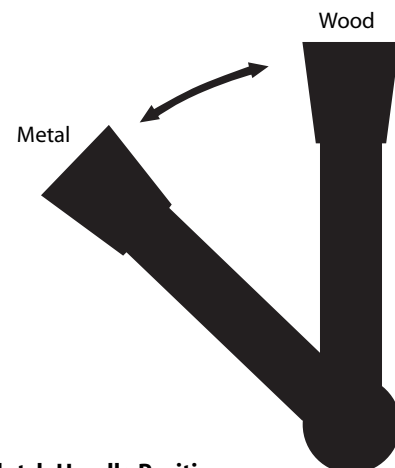

Figure 2 - Clutch Handle Position
Refer to Figure 2, 6-11.
Refer to Figures 2, 8 and 9.
- Position clutch handle (Figure 8, Ref. No. 60) to "Metal". See Figure 2.
Refer to figures 2, 7, 8, 9 and 11.
- Position clutch handle (Figure 8, Ref. No. 60) to "Wood". See Figure 2.